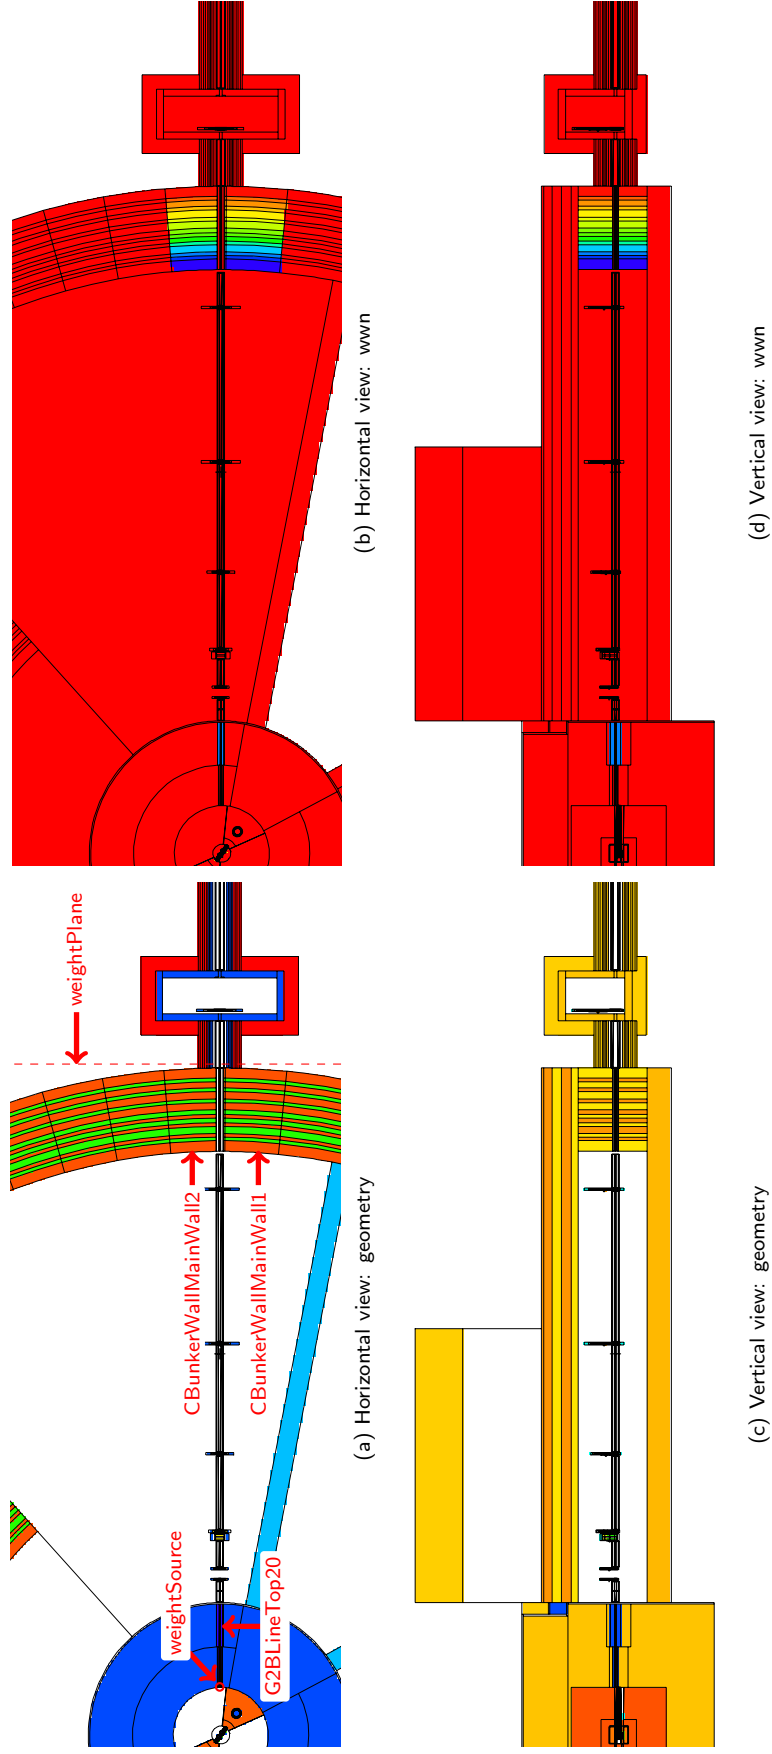

Figure 7: Cell-based weight window
-defaultConfig Single ODIN These optional arguments build the ODIN beam line without building any other beamlines (see Fig. 7)..